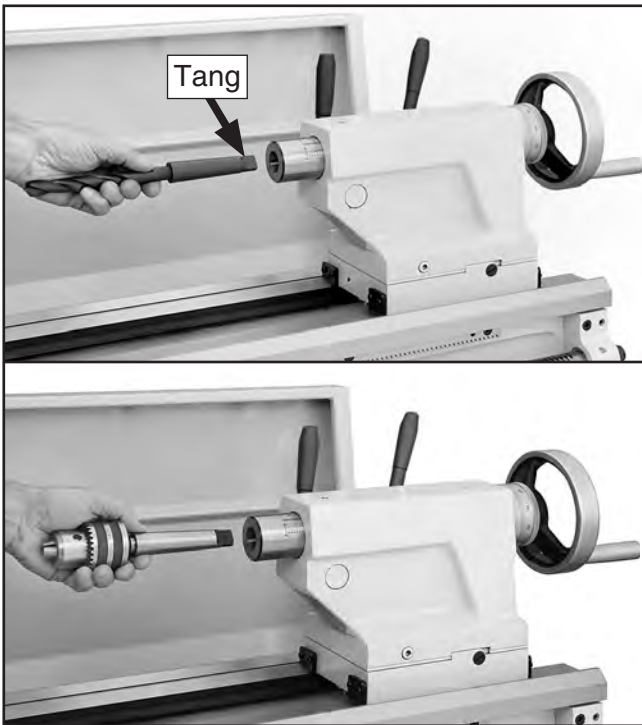

Figure 28. Example photos of inserting MT#3 tools with tangs into a typical tailstock.
3. With a firm and quick motion, insert the tool into the quill, as shown in **Figure 28** on **on this page**. Check to see if it is firmly seated by attempting to twist it—a firmly seated tool will not twist.